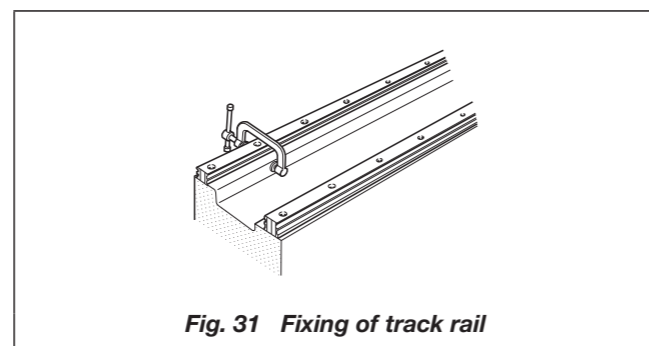

Fig. 31 Fixing of track rail
- Firmly push the reference mounting surface of Linear Way I track rail to the mating reference mounting surface of the bed using a small vise or clamp. Tighten the track rail mounting bolt at the position of the vise or clamp. Fix the track rail by progressively moving the vise or clamp from one rail end to the other. (See Fig. 31.)